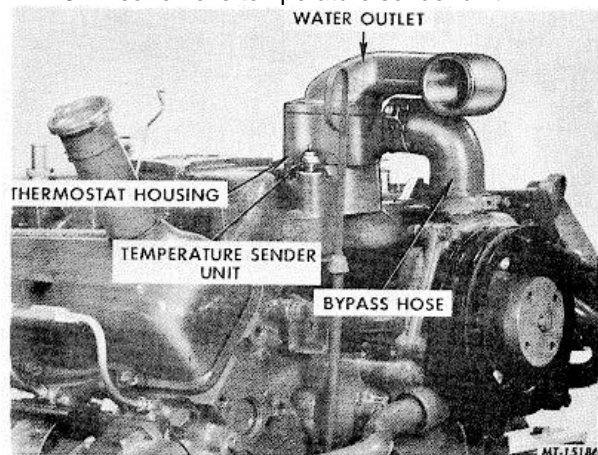

Fig. 18 Removing Water Outlet, Thermostat, Housing and Bypass Hose from Intake Manifold
22. Remove water outlet, thermostat and thermostat housing and bypass hose from intake manifold, Fig. 18. Also remove temperature sender unit.